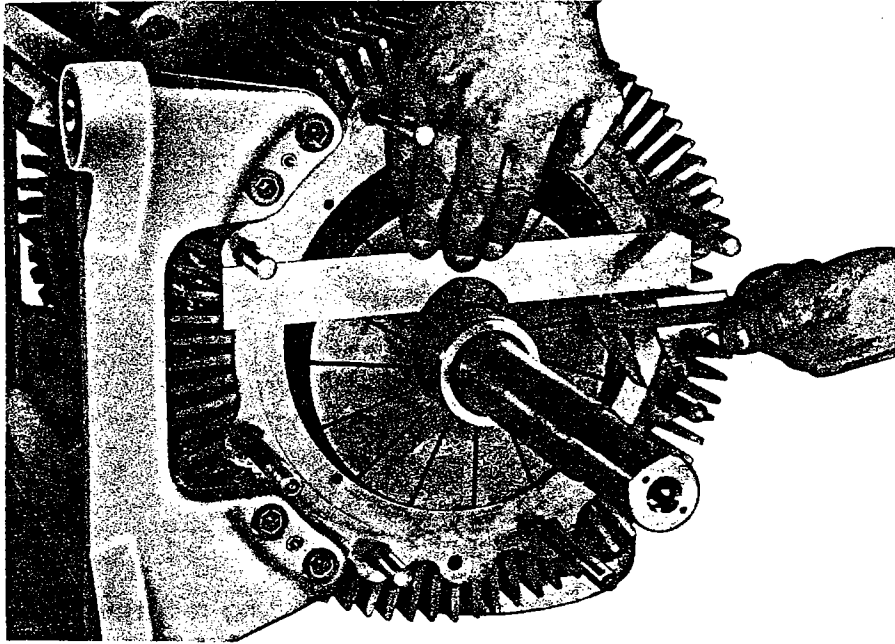

Fig.22
At the opposite, open end of the compressor, measure the distance between the rotor (3) and the housing (1) at the level of the rotor shaft axis with a caliper square and check whether the rotor is correctly centred in the housing (Fig. 22). Any slight adjustment needed can be made by slacking off the nuts on the end-plate at the drive end and shifting the end-plate so as to bring the rotor into centre. Afterwards, tighten the nuts on the end-plate. Lift the opposite end-plate, with gasket P2, on to the inner race of the roller bearing (29) and secure it with hexagonal nuts. Fit a C-spanner to the free end of the shaft and turn the rotor until the steel strips slip out from under it. Continue turning to test whether the rotor revolves freely. Thereafter, drill trough the housing end-plates and housing at the points marked.